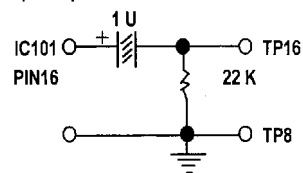

FIG.1
1. Direct connect to the IF sweeper output side and 1 uF and 22 Kohm connect to the sweeper input side. Same as FIG. 1.